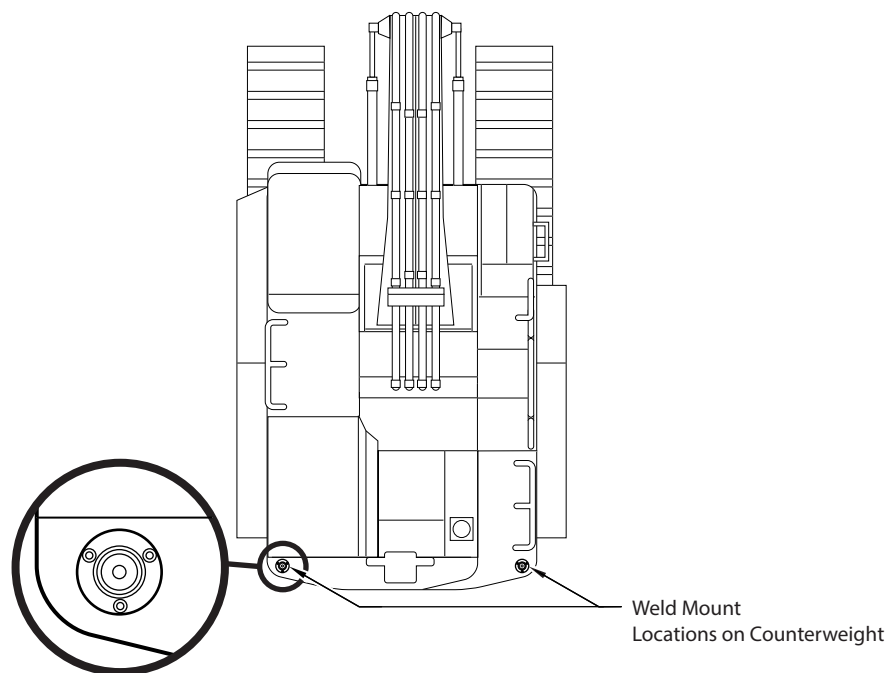

Figure 45: Antenna Pole Mount Weld Mount Locations
1. Weld the Antenna Pole Weld Mount to the top of the counterweight as shown in Figure 45.